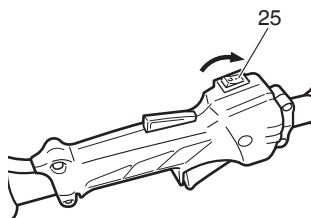

Fig. 15
- (1) Set ignition switch (25) to ON position. (Fig. 15)